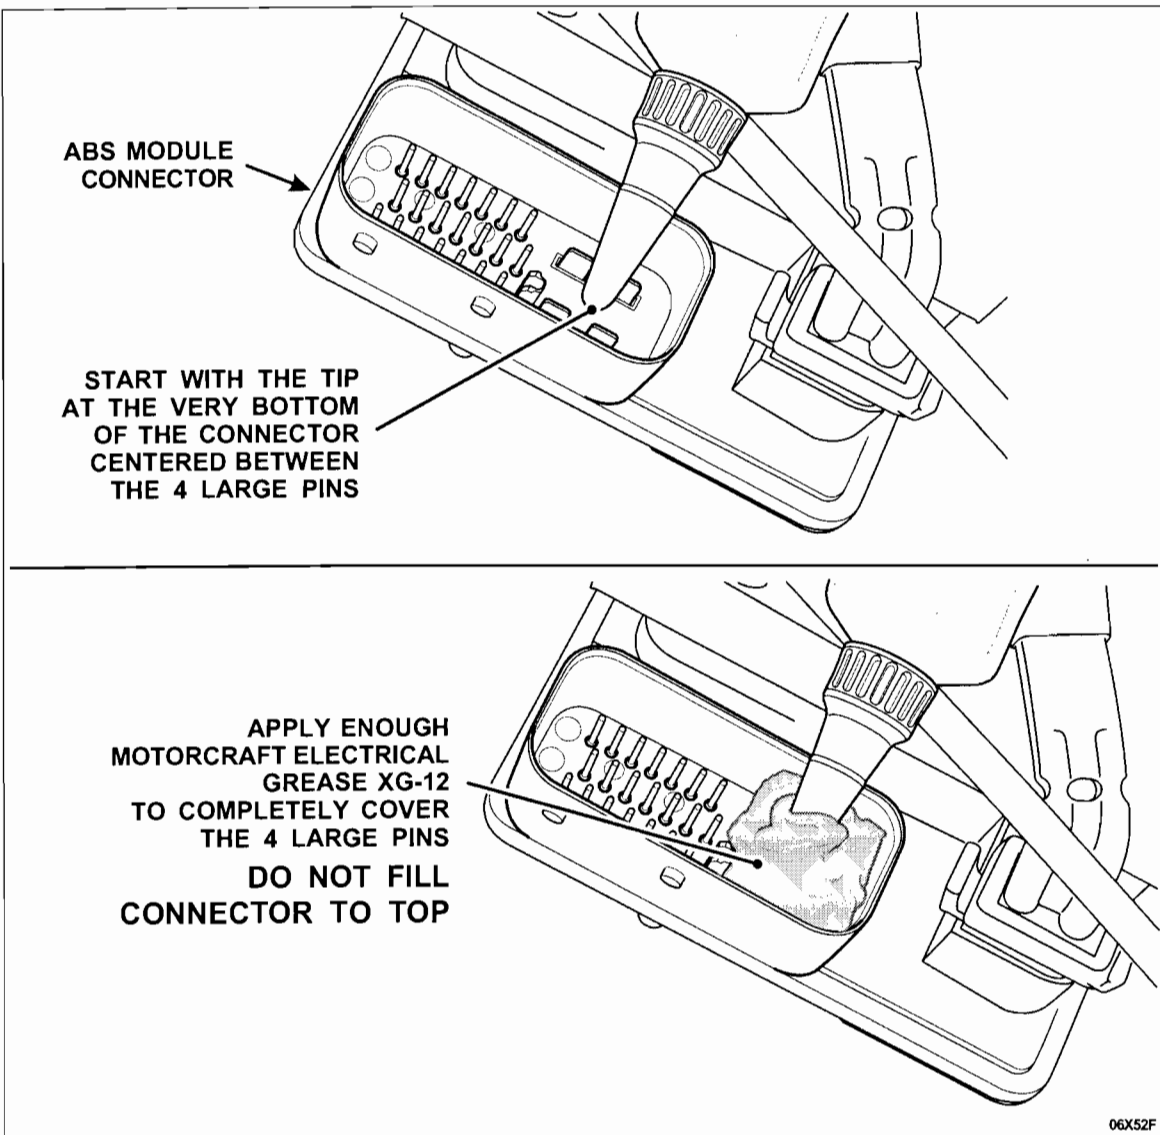

FIGURE 25
- b) Use ONLY Motorcraft Electrical Grease XG-12. See Figure 25.
- With the tip of the applicator tube snipped off, position the end of the tip between the 4 large flat pins at the bottom of the ABS module connector. Squeeze out enough grease to completely cover the 4 flat pins. See Figure 25. DO NOT spread the grease around the connector. Applying an excess amount of grease into the connector cavity will cause a "hydro lock" condition in which the connector will not be able to be seated fully or locked in place.